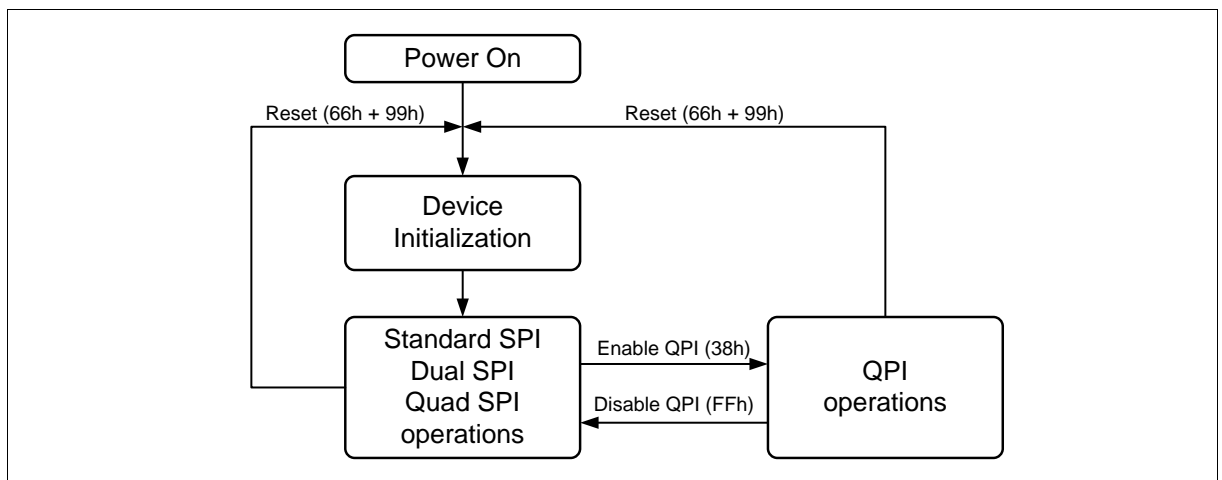

Figure 2 FM25Q04B Serial Flash Memory Operation Diagram
The FM25Q04B supports Quad Peripheral Interface (QPI) operations only when the device is switched from Standard/Dual/Quad SPI mode to QPI mode using the “Enable QPI (38h)” instruction. The typical SPI protocol requires that the byte-long instruction code being shifted into the device only via DI pin in eight serial clocks. The QPI mode utilizes all four DQ pins to input the instruction code, thus only two serial clocks are required. This can significantly reduce the SPI instruction overhead and improve system performance in an XIP environment. Standard/Dual/Quad SPI mode and QPI mode are exclusive. Only one mode can be active at any given time. “Enable QPI (38h)” and “Disable QPI (FFh)” instructions are used to switch between these two modes. Upon power-up or after a software reset using “Reset (99h)” instruction, the default state of the device is Standard/Dual/Quad SPI mode. To enable QPI mode, the non-volatile Quad Enable bit (QE) in Status Register-2 is required to be set. When using QPI instructions, the DI and DO pins become bidirectional DQ_0 and DQ_1 , and the WP# and HOLD# pins become DQ_2 and DQ_3 respectively. See Figure 2 for the device operation modes.